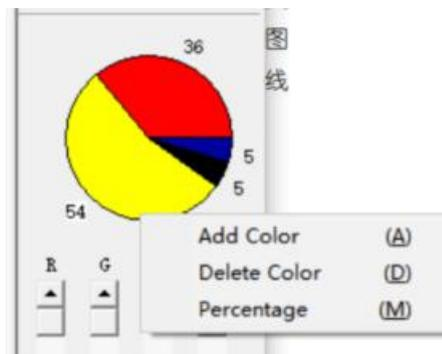

Figure 5-11 Yarn color setting options
2. Yarn color setting: On the color percentage chart, the color of the white block in percentage is the current editing color, and the status value of this color is displayed in the "RGB" and brightness adjustment columns below. You can adjust "R, G, B, L" to change the current color and brightness, or you can directly select on the color panel to change the current color. In addition, right-click on this color block, and the options shown in the following figure will pop up (Figure 5-11). You can add a color, delete a color, and modify the percentage of the current color by selecting it. The composition color of the yarn is at least one and at most five.